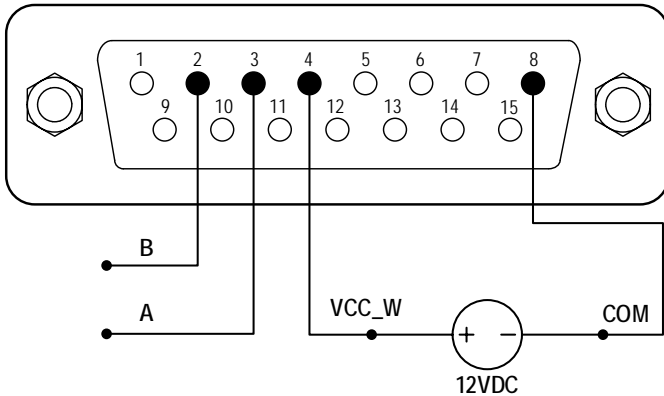

Figure 44. RS485 MODBUS Wiring
- 1) Power off the device. Wire the DB15 connector as shown on Figure 44, and connect it to the DB15 port located at the rear of the pump. It is recommended to use an external DC power source to minimize